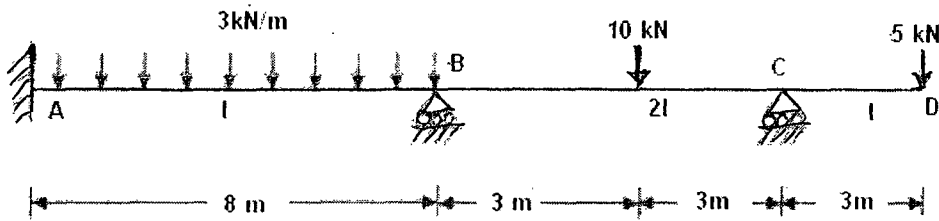

Fig. 14a
14. a) Draw the bending moment diagram for the continuous beam ABCD loaded as shown in Fig.14a. The relative moment of inertia of each span of the beam is also shown in the figure. Use Moment distribution method.